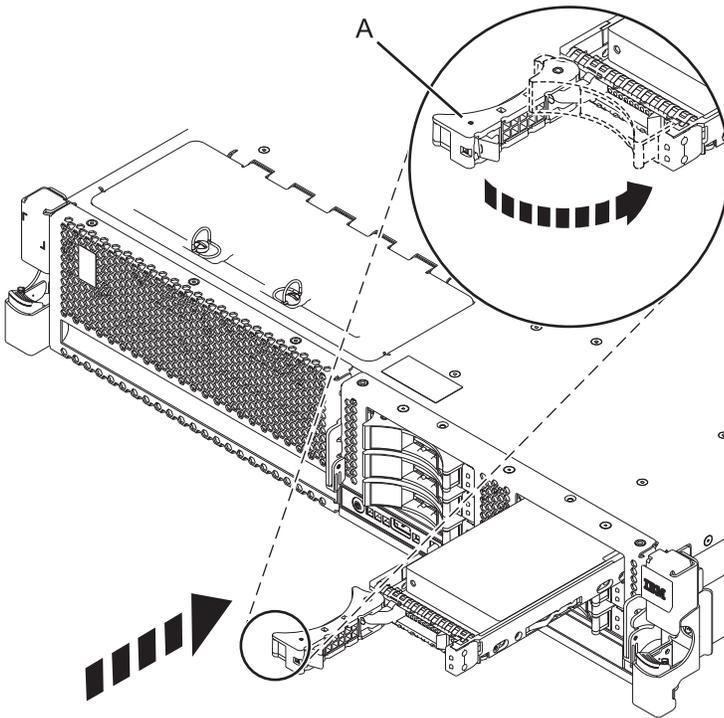

Figure 14. Installing the disk drive into the 8231-E2B, 8231-E1C, or 8231-E2C
9. Slide the disk drive all the way into the system or expansion unit, and push the disk drive handle (A) in until it locks, as shown in Figure 14.